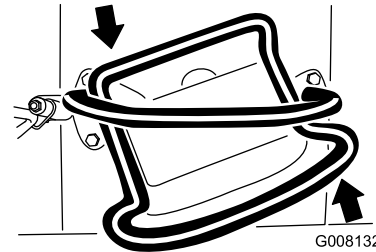

Figure 10
- To turn left, rotate the traction control counterclockwise (Figure 10).